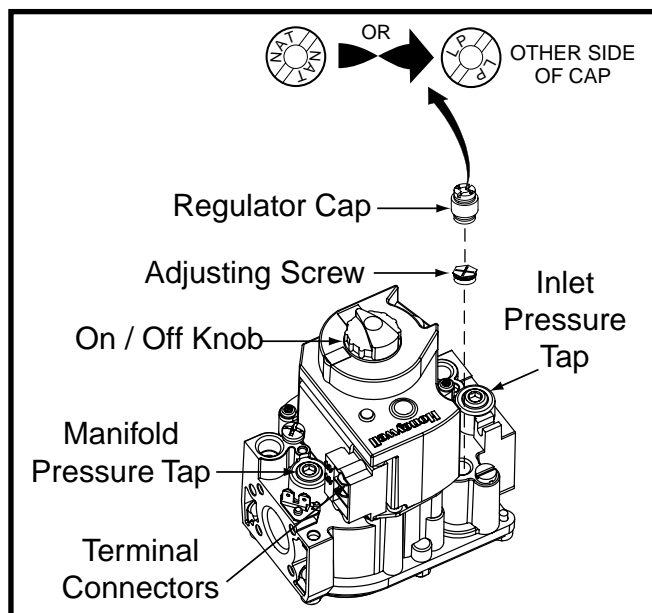

Figure 13. Gas Valve
Converting single stage valves to LP/Propane requires the replacement of the burner orifices and flipping the regulator cap to the side marked LP. The end facing up should now read LP. See Figure 13.
2. Using a 3/16" Allen wrench, remove the plug from the inlet pressure tap (INLET side of gas valve). See Figure 13 (page 18).
4. Turn the gas valve ON/OFF knob to the ON position. See Figure 13 (page 18).
3. Using a 3/16" Allen wrench, remove the manifold pressure tap plug located on the outlet side of the gas valve. See Figure 13 (page 18).
1. **Single stage gas valve:** Remove the regulator cap from the top of the gas valve. See Figure 13 (page 18).